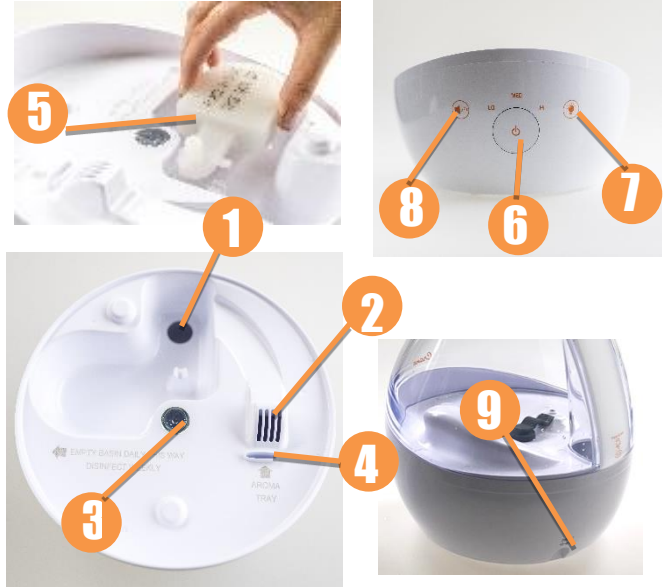

Fig. 2 (Water Tank)
2. **WATER TANK** (Page 4, Fig 2)- Place water tank onto the humidifier base ensuring the Crane Logo lines up with the Power Button for proper water tank placement. Fill water into the water fill opening. As shown in figure 2.
(Fig. 2)
3. **MIST CHANNEL COVER** (page 4, Fig. 2 #10)-Secure the mist channel cover onto the water tank. You will hear an audible click on top and bottom of the mist channel cover to secure placement.